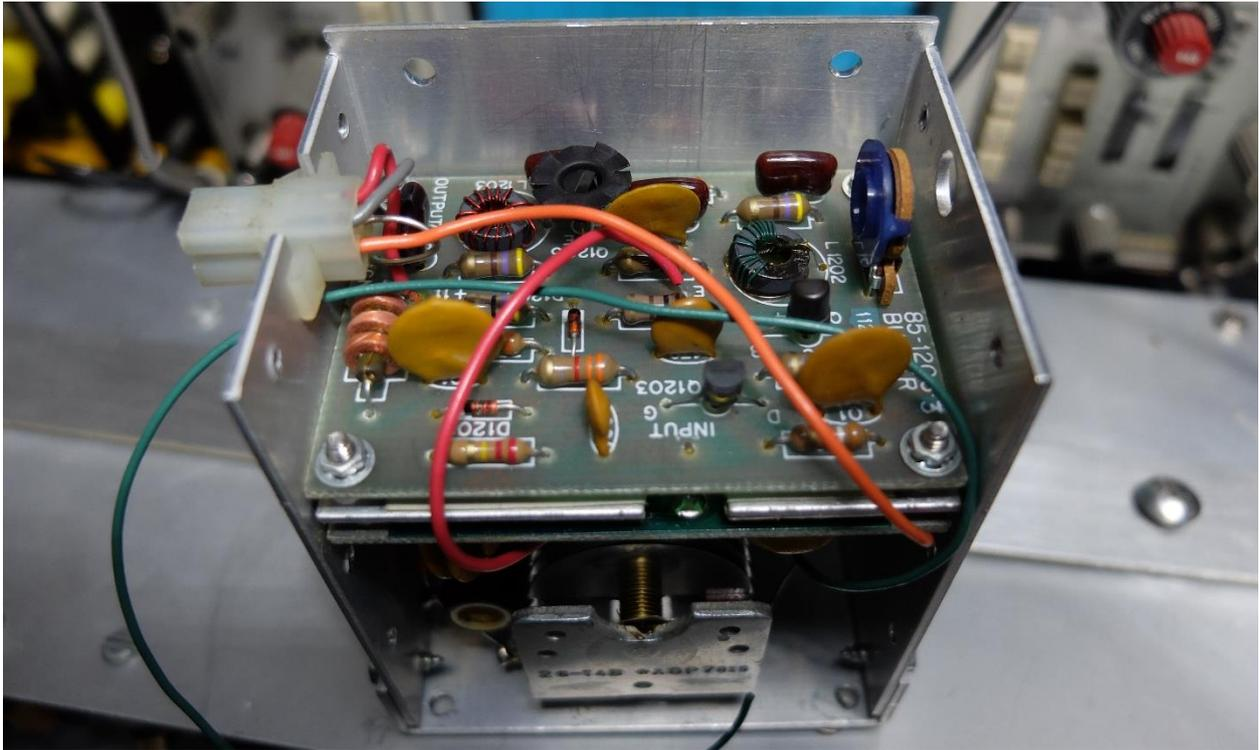

Figure 4 - VFO Cover Off
- (5) Remove the four VFO mounting screws on the bottom of the unit.
- (6) Now you can remove the VFO and then remove its cover. See Figure 4